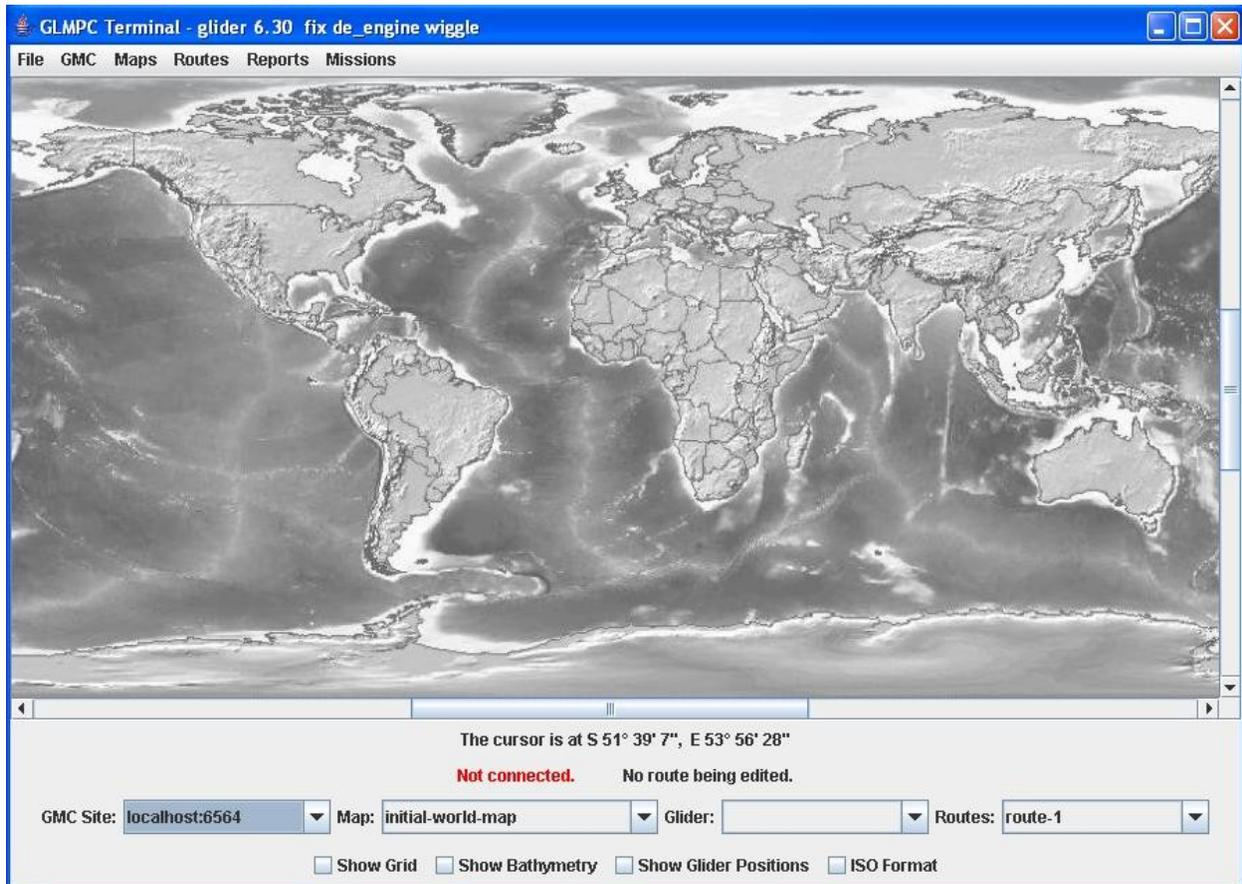

Figure 6-4. Glmpc Terminal Main Window.
Once added to your desktop, the Glmpc Terminal application launches and its main window appears (Figure 6-4). If the world map is not displayed, select *initial-world-map* from the Map combo-box on the lower section of the Glmpc Terminal.
1. Double click the desktop icon labeled “Glmpc Terminal” or select the item labeled “Glmpc Terminal” from the “All Programs” menu (Windows XP). The Glmpc Terminal window should appear (Figure 6-4) with a world map displayed.